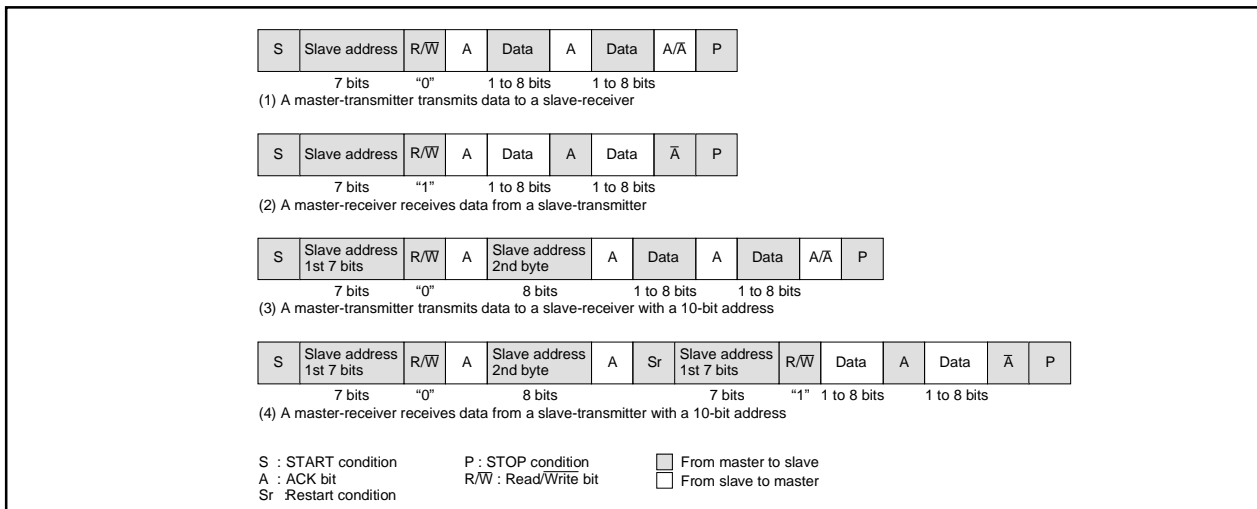

Fig. 2.11.45 Address data communication format
To meet the 7-bit addressing format, set the 10BIT SAD bit of the I²Ci control register to “0.” The first 7-bit address data transmitted from the master is compared with the high-order 7-bit slave address stored in the I²Ci address register. At the time of this comparison, address comparison of the RBW bit of the I²Ci address register is not made. For the data transmission format when the 7-bit addressing format is selected, refer to Figure 2.11.45, (1) and (2).
When the first-byte address data matches the slave address, the AAS bit of the I²Ci status register is set to “1.” After the second-byte address data is stored into the I²Ci data shift register, make an address comparison between the second-byte data and the slave address by software. When the address data of the 2nd bytes matches the slave address, set the RBW bit of the I²Ci address register to “1” by software. This processing can match the 7-bit slave address and R/\overline{W} data, which are received after a RESTART condition is detected, with the value of the I²Ci address register. For the data transmission format when the 10-bit addressing format is selected, refer to Figure 2.11.45, (3) and (4).
(11) Example of Master Transmission